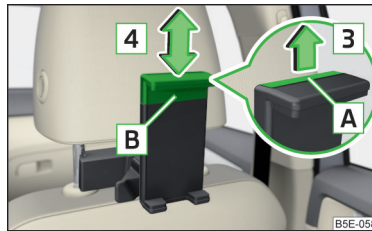

Fig. 125
- ▶ To **adjust the holder size**, pull out the securing tab in the direction of arrow and push the part in the direction of arrow to the desired position » Fig. 125.